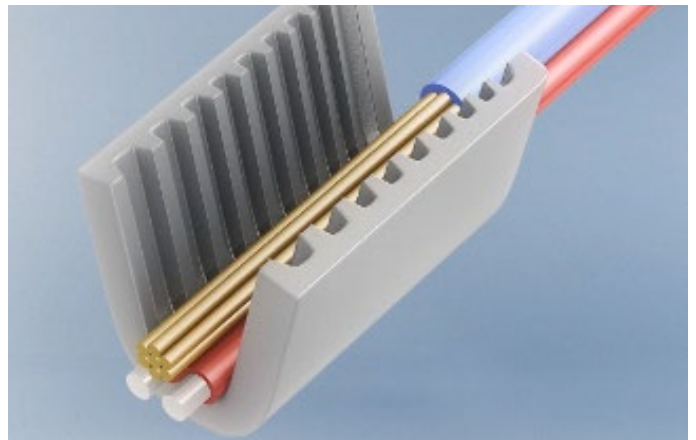
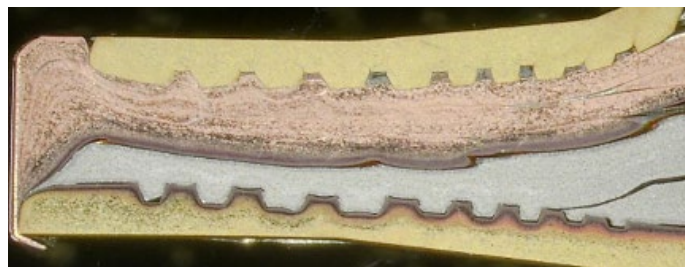
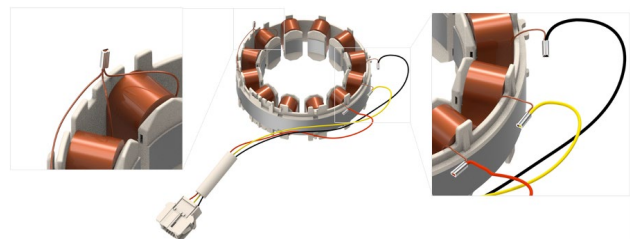

Figure 1: AMPLIVAR terminal configuration
Figure 2: Serration penetration after crimping
Figure 3: AMPLIVAR terminal application to motor windings
**AMPLIVAR Splice Solution:** Magnet wires are positioned in the bottom of the AMPLIVAR splice before crimping. If a lead wire is included, it will be located on top of the magnet wires (Figure 1). The wire barrel connection includes internal serrations that penetrate the wire insulation layer and extrude the conductor surface when crimped (Figure 2). This maximizes the contact surface between the conductor and the termination while strengthening the joint. The AMPLIVAR terminal can be used to splice together multiple magnet wires or connect magnet wire to lead wire (Figure 3).